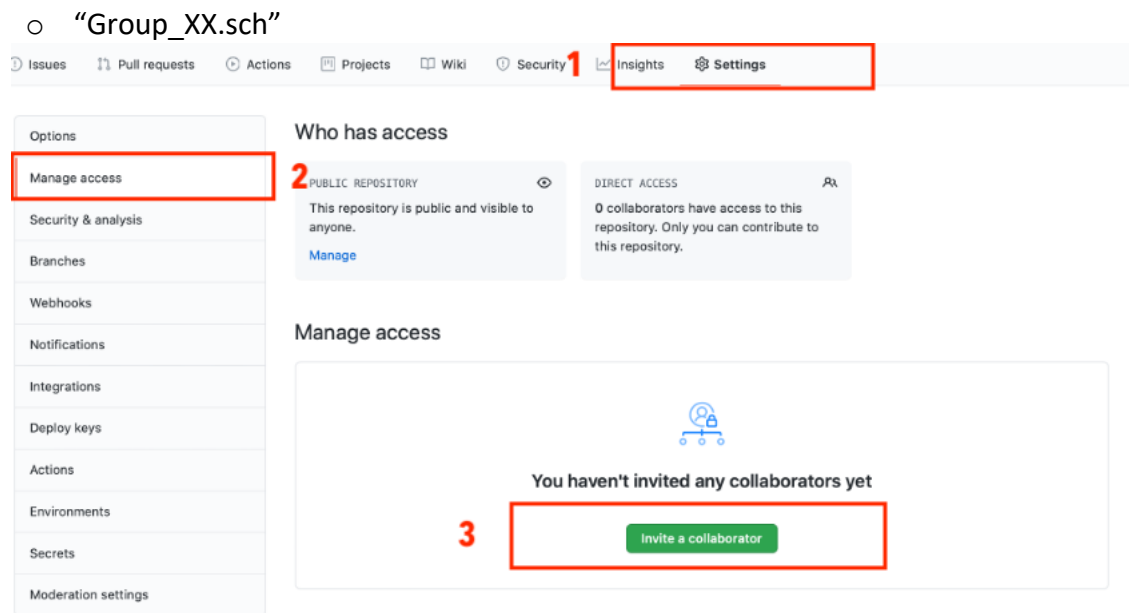

Figure 2: GitHub repository access management.
3. The other team member(s) are added to the repository as collaborators via GitHub (see Figure 2)